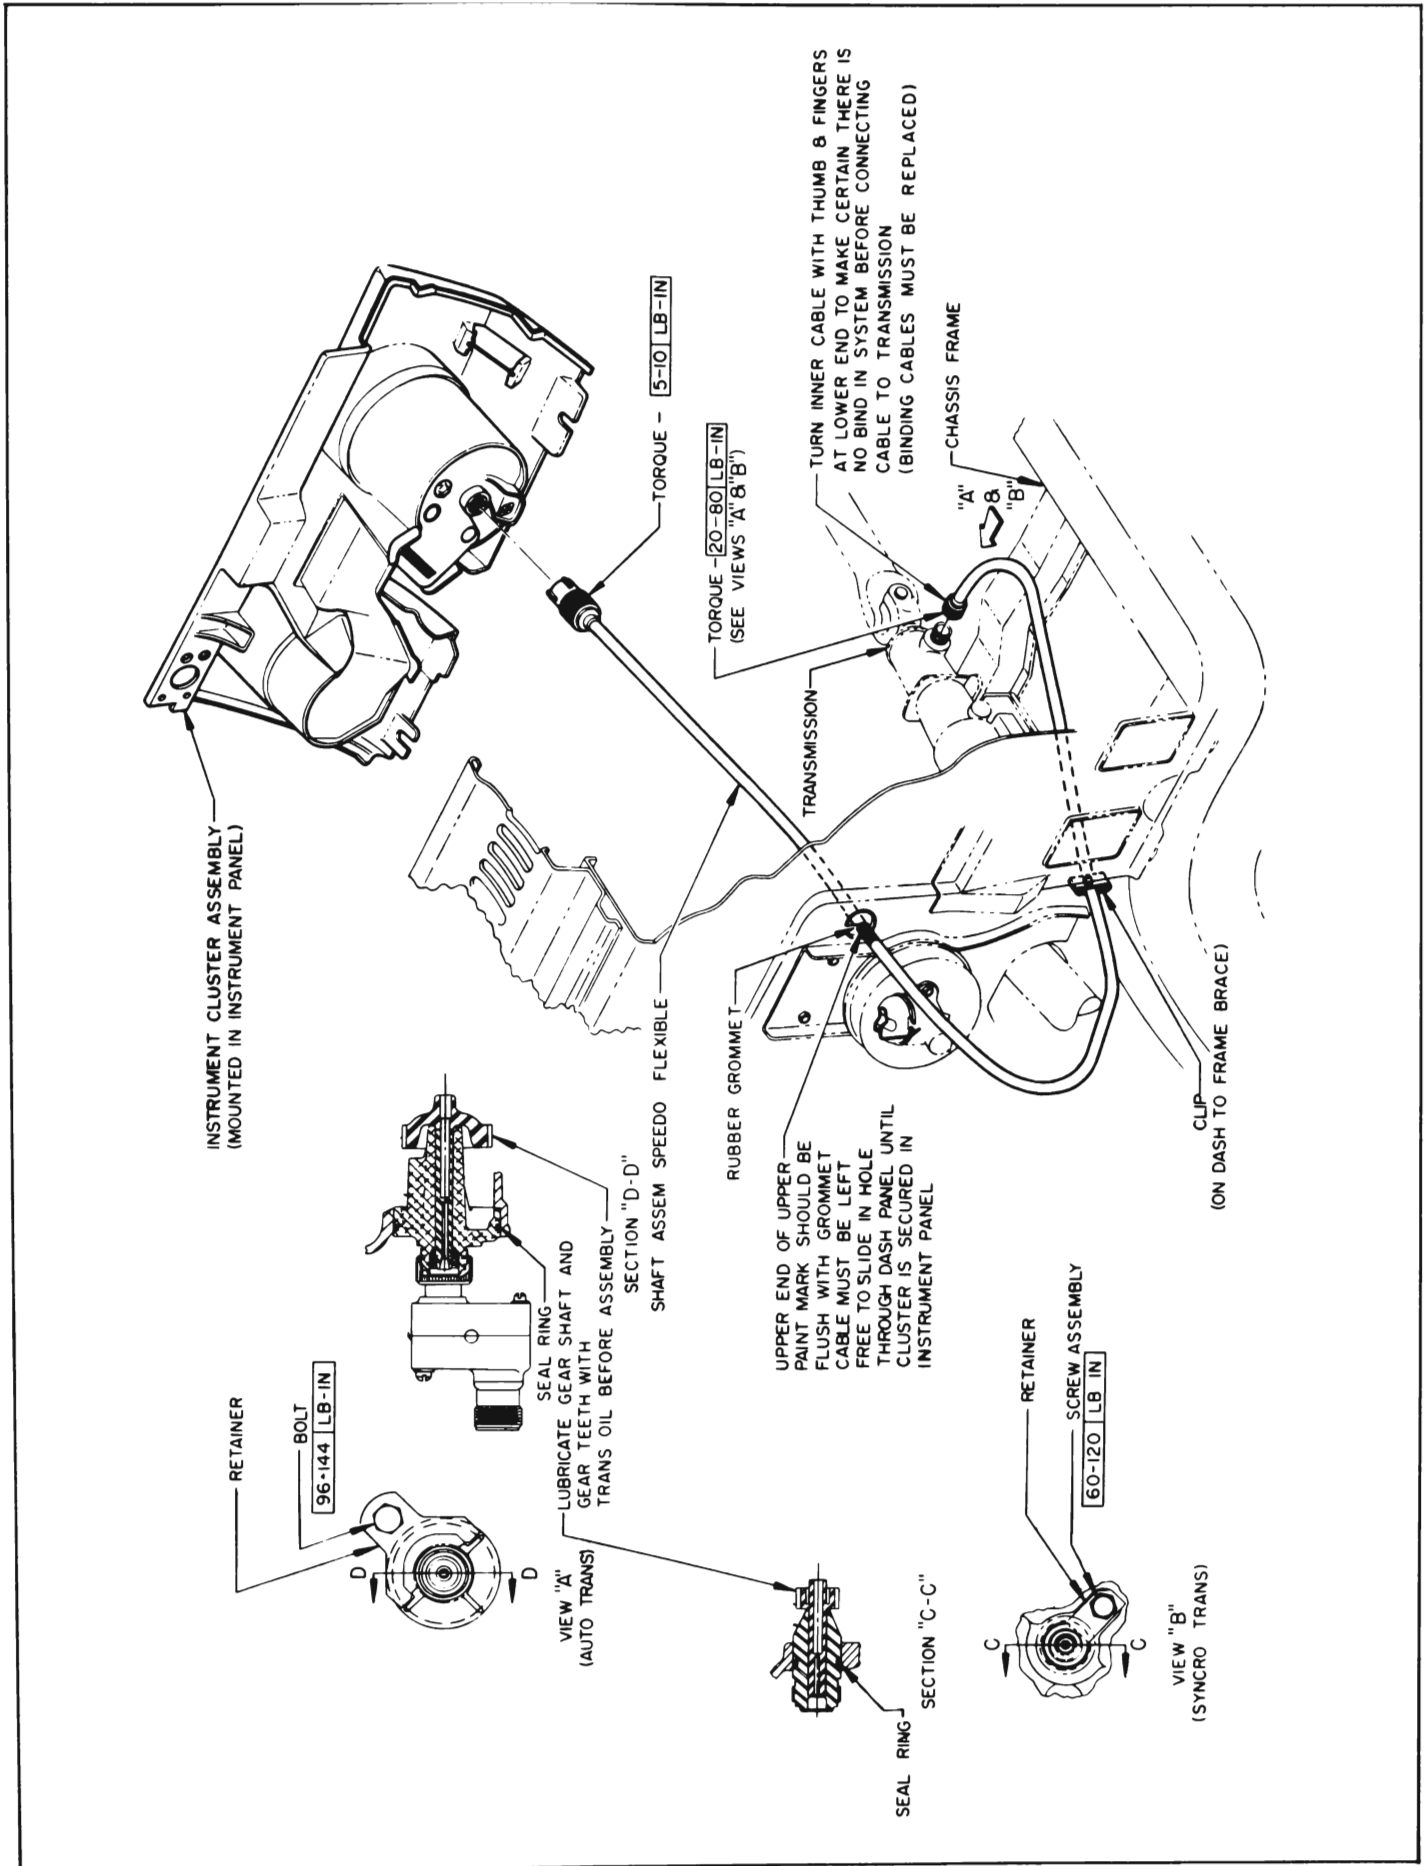

Figure 10-71—Speedometer Cable Installation
5. If noise disappears with transmission stationary, check further for cause of noise by checking for proper installation of speedometer cable as shown in Figure 10-71 or 72.
If the speedometer installation appears to be noisy or the speed indicator wavers, inspect the cable casing for damage, sharp bends, or for being out-of-position in the supporting clips. See Figure 10-71 or 72. If casing is in good condition and properly installed, remove inner cable for inspection.